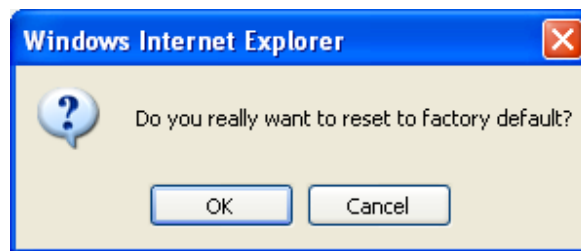

Figure 2-8: Factory Default Message
2. When the message in Figure 2-8 appears, click **OK** to return your PlugLAN 8660 SmartBridge to its factory default configuration (or click **Cancel** to keep its current configuration). If you returned to the factory default settings, a message tells you that your PlugLAN 8660 SmartBridge AV Ethernet Adapter is rebooting. After the reboot completes, the Welcome page appears.